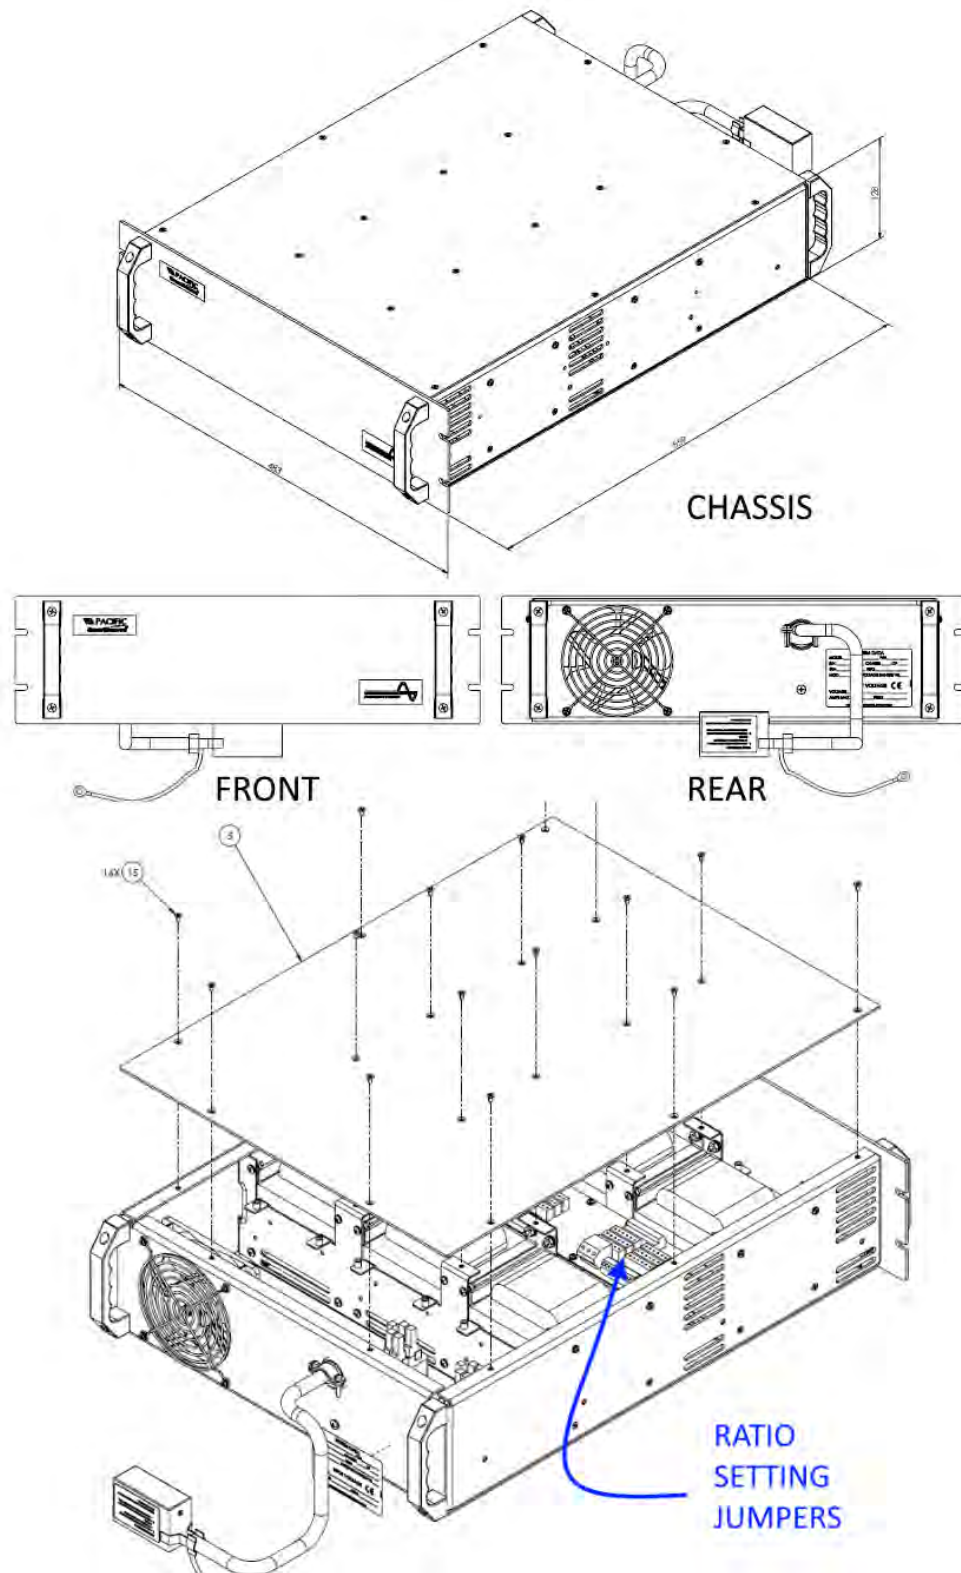
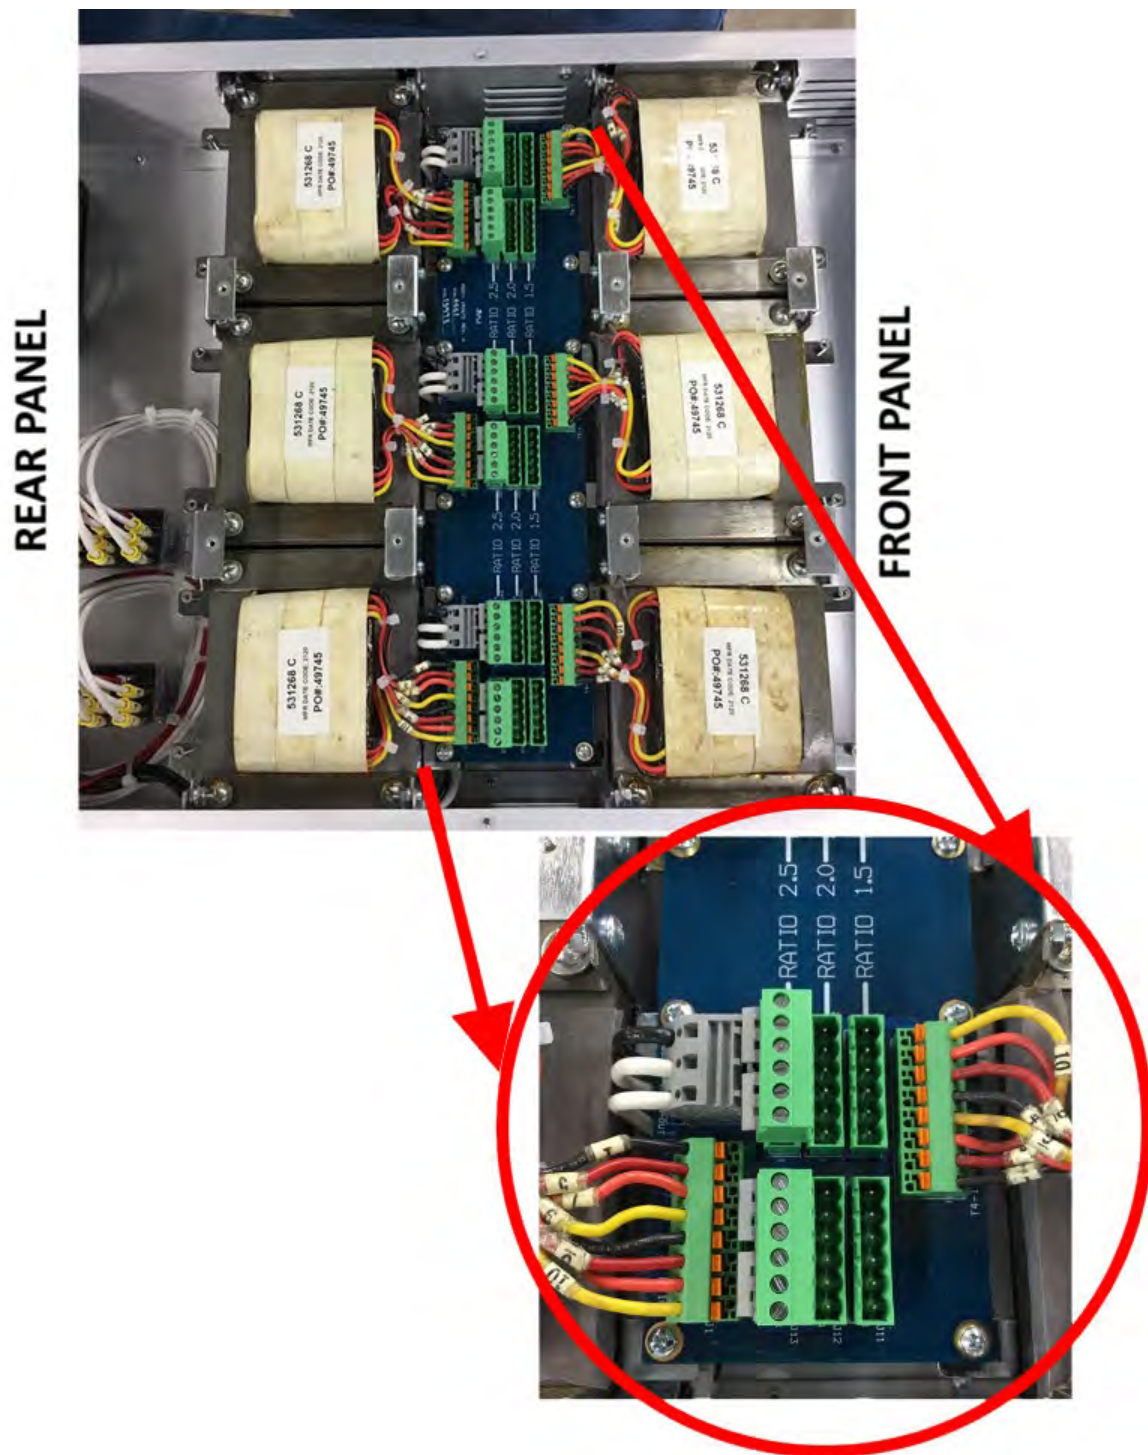

Figure 5-10: External Output Transformer Module Chassis Drawing
Figure 5-11: External Output Transformer Module Configuration Jumpers
For all 5U and 8U rack height LMX models, the magnetics module consists of a separate 3U rack mount chassis that contains the transformers and connects to the power source. The Magnetics Module (Assembly No. 134780) is required for the VR1.5, VR2.0, and VR2.5 output forms. Refer to Figure 5-10 on page 84.
3. Move all jumpers to the desired transformer ratio position. All jumpers must be in the same row. The ratio is shown on the circuit board. Refer to Figure 5-11 on page 85.
The wiring requirements for high range (0-270, 0-300Vac) 220 Vac, one-phase, or split phase direct-coupled loads are shown in Figure 5-10 and Figure 5-11. Split Phase or two-phase operation is defined to be two voltage vectors (V_a and V_b) which are equal in magnitude and separated by 180° .
Some loads require three connections (V_a -N- V_b or L1-N-L2). This type of load is commonly referred to as "Split Phase". In this case, the "N" terminal of the output terminal block is used in addition to the wiring described above. Refer to Figure 5-10 and Figure 5-11 for connection details.